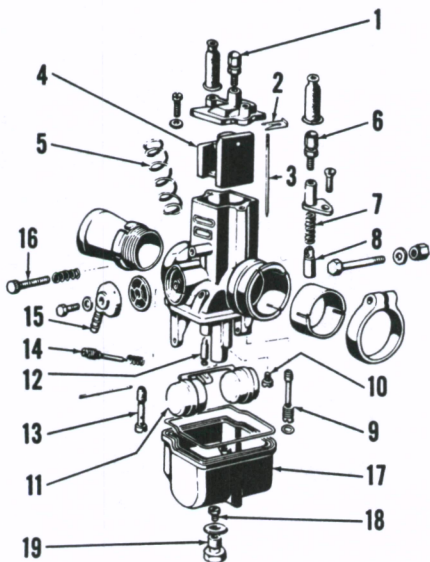

Fig. BE3-1—Exploded view of carburetor used on 650cc Tornado.
CARBURETORS. Two Del'Orto concentric units with 29mm throttle bores are used. (Fig. BE3-1) Initial setting of pilot air screw (14) is 1½ turns out from a lightly seated position.